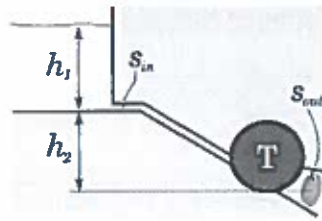

Figure Q5.2- Diagram of the dam.
- c) A micro hydraulic generation system consists of an upper water reservoir that feeds a penstock that goes to a turbine that generates power (see Figure Q5.2). The characteristics of the system and its operating point are summarised in Table Q5.1.